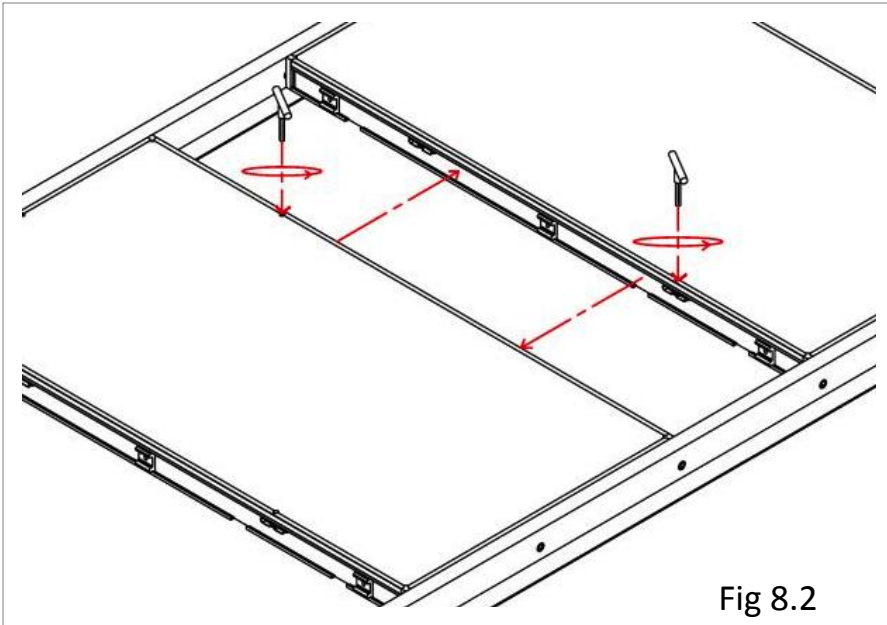

Fig 8.2
- B. Push another Deck tightly against the next, and lock them together by turning the Rotor Locks on the tops of each Deck. See Figure 8.2.